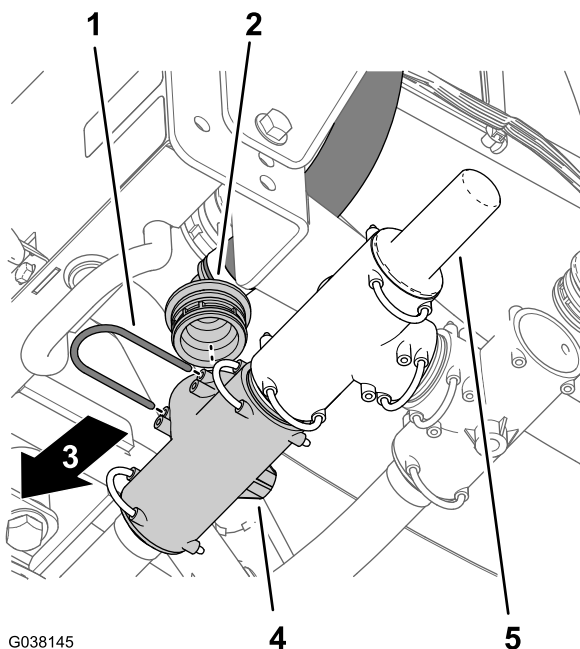

Figure 24
3. Remove the retainer that secures the 90° barbed fitting of the sprayer supply hose to the T-fitting located forward of the pressure-relief valve (Figure 24).
4. Remove the 90° barbed fitting from the T-fitting (Figure 24).